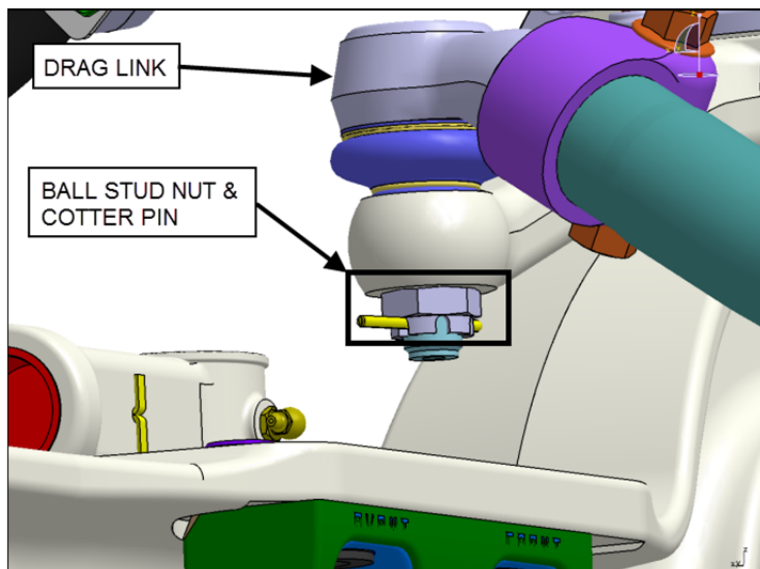

FIGURE 2
4. Remove the cotter pin and then unscrew the drag link ball stud nut (**FIGURE 2**).